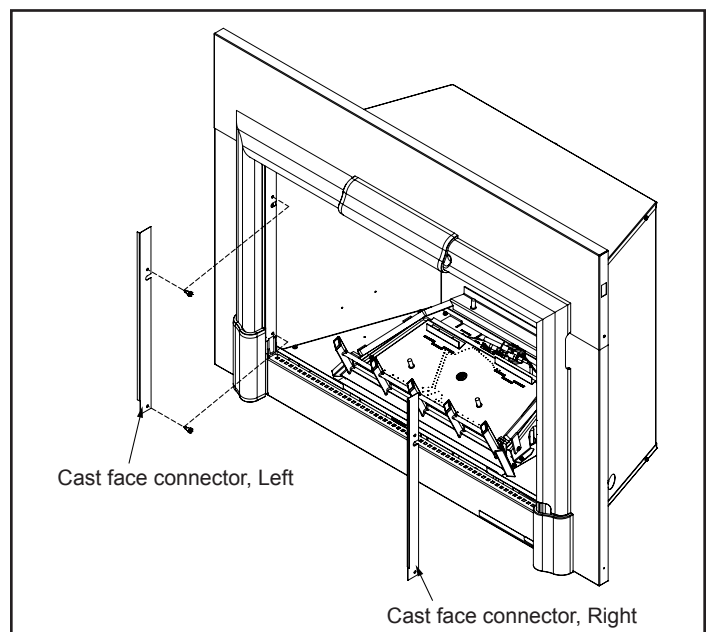
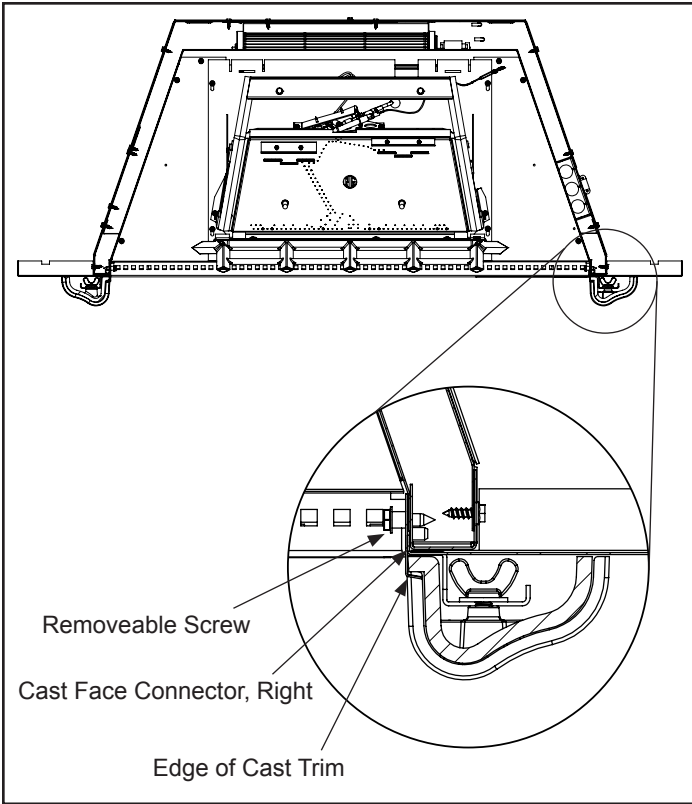

Figure 5 - Install cast face connectors.
Figure 6 - Top view
- c. Hold cast surround in place. Remove two surround screws from each side. Hook left cast face connector around edge of cast trim and align hole of bracket with hole of surround. Reinstall screws, (Figure 5). See additional views Figures 6 through 7 for details.